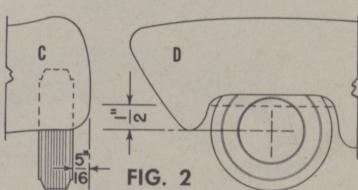

FIG. 2
**Partially Exposed Front Wheels (Fig. 2)**—If the fenders cover any part of the front wheels at or above a line  $\frac{1}{2}$  inch higher than the wheel center (D, dotted line), the wheels should be placed  $\frac{5}{16}$  inch from the fender edge (C).
**Rear Wheel Clearance**—Rear wheels, if fully exposed, may be placed flush with the fender edge. Rear wheels which are not fully exposed should be placed  $\frac{5}{16}$  inch from the fender edge (C Fig. 2).